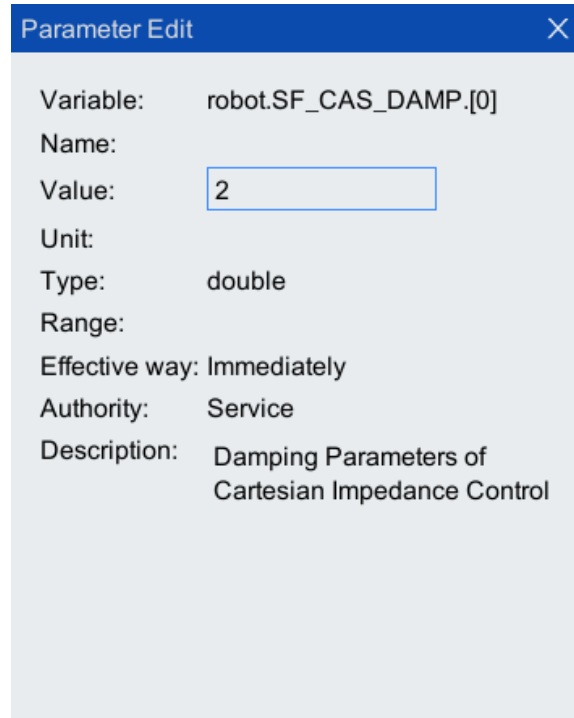

Figure 4-10 Cartesian impedance control damping parameter configuration interface
Step4. Click <Edit>, and the dialog box shown in Figure 4-10 will pop up. Configure the parameter value in [Value], and click <YES> after completing the configuration. See Table 4-5 for parameter description.